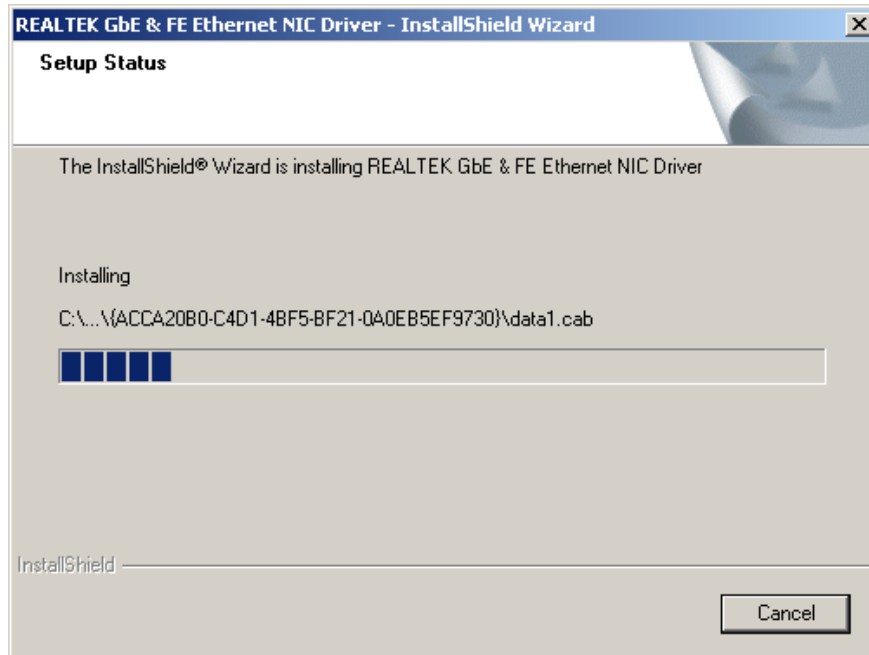

Figure 6-14: Realtek LAN Driver Setup Status
Step 4: Click **INSTALL** and the **Setup Status** screen appears as the driver is installed (**Figure 6-14**).